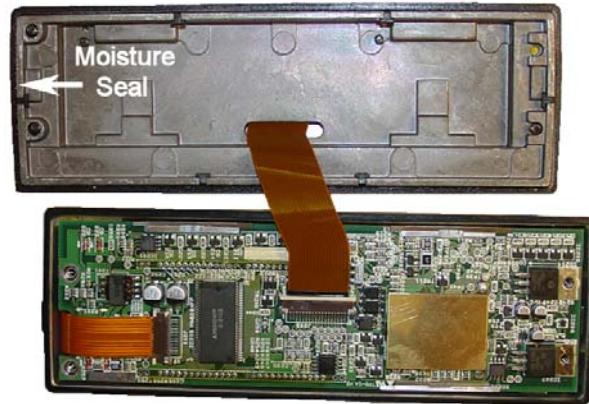

Figure 4-9: M7100/JAGUAR Control Unit
5. Flip open back cover being careful not to damage the flex cable or pull it loose from the Panel Control Board. If disassembling an M7100/JAGUAR 725M control unit (see Figure 4-7 and Figure 4-9), be aware that the connector on the flex cable WILL NOT fit through the slot in the rear cover. The cable will have to be disconnected from the Panel Control board first.